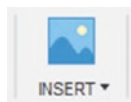

Figure 3-33. Click the “INSERT” drop-down menu
2. Go to the “INSERT” drop-down menu. See Figure 3-33.